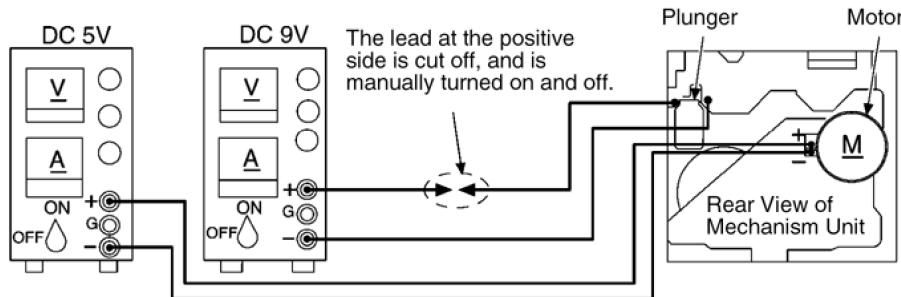

Fig. 5
2. Supply DC5V to MOTOR. (\rightarrow MOTOR rotates.) (Fig. 5)
4. Supply DC9V to the plunger, and turn the power ON and OFF. (\rightarrow Power +PL, -PL) (Fig. 5)